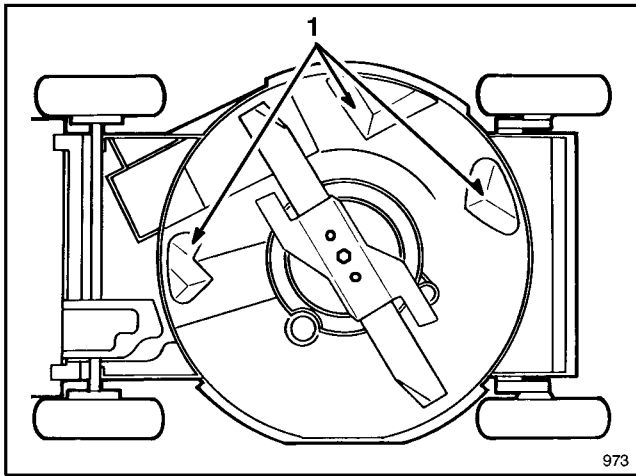

Figure 32
Keep underside of mower housing clean. Be especially careful to keep kickers free of debris (Fig. 32).
6. Tip mower on its left side (Fig. 32). Avoid rotating blade because starting problems may result.